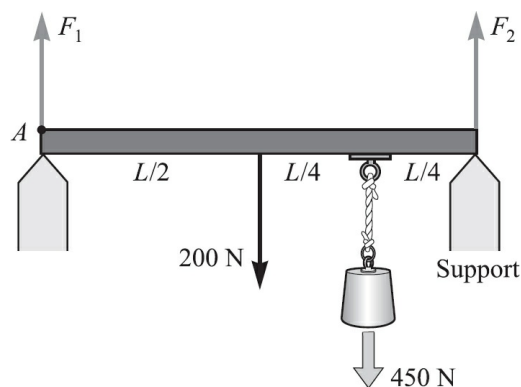

Fig. 5-3
5.2 [III] A uniform metal beam of length L weighs 200 N and holds a 450-N object as shown in Fig. 5-3. Find the magnitudes of the forces exerted on the beam by the two supports at its ends. Assume the lengths are exact.
Rather than draw a separate free-body diagram, we show the forces on the object being considered (the beam) in Fig. 5-3. Because the beam is uniform, its center of gravity is at its geometric center. Thus, the weight of the beam (200 N) is shown acting downward at the beam's center. The forces F_1 and F_2 are exerted on the beam by the supports. Because there are no x -directed forces acting on the beam, we have only two equations to write for this equilibrium situation: $\Sigma F_y = 0$ and $\Sigma \tau = 0$.